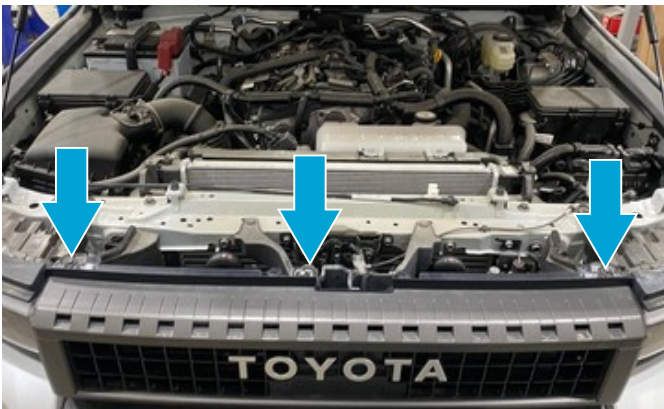

Fig.3
3. Unscrew factory bolts (fig.3).